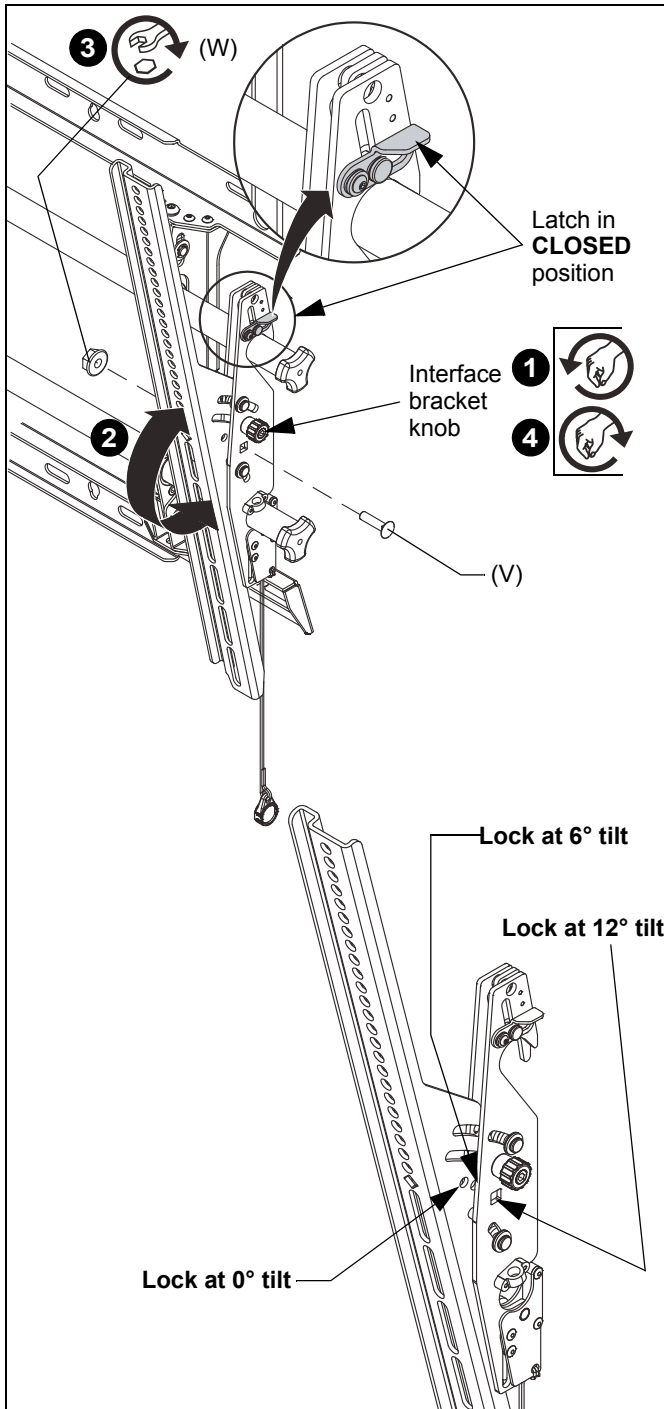

Figure 13
3. Move latch on top of interface brackets to **CLOSED** position. (See Figure 13)
2. Adjust tilt as required. (See Figure 13)
3. The tilt may be locked at 0°, 6° or 12° using one 1/4-20 x 1" round head carriage bolt (V) and one 1/4-20 hex nut (W) per interface bracket. (See Figure 13)